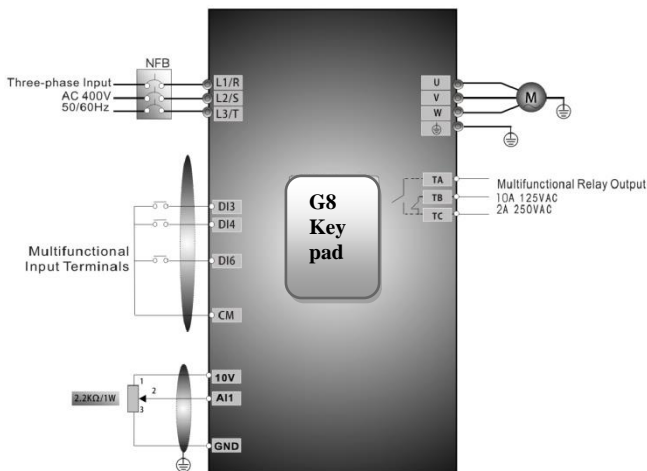

Figure 5-3 Wiring Diagram 3
- (1) Connect the wires in accordance with Figure 5-3. After having checked the wiring successfully, switch on the air switch, and power on the inverter. Note: 2K ~ 5K potentiometer may be adopted for setting external analog signals. For the cases with higher requirements for precision, please adopt precise multiturn potentiometer, and adopt shielded wire for the wire connection, with near end of the shielding layer grounded reliably.